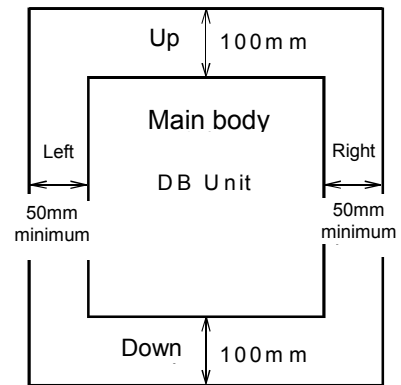

Fig. 2-2-1
- (1) Install the braking unit on a solid structure securely with bolts and vertically so that the label characters are seen in front.
- (2) The braking unit generates heat during operation. Reserve space shown in Fig. 2-2-1 to assure passage of cooling air. Because the generating heat is radiated above, do not install below a device susceptible to heat.
- (3) The temperature of the heat sink rises up to about 90°C during operation of the braking unit. The material of the mounting face at the back of the braking unit must bear the temperature rise with a sufficient margin.